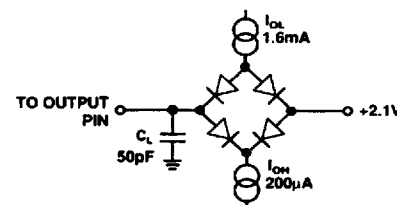

Figure 2. Load Circuit for Output Float Delay
- 4 $t_7$  is derived from the measured time taken by the data outputs to change 0.5 V when loaded with the circuit of Figure 2. The measured number is then extrapolated back to remove the effects of charging or discharging the 50 pF capacitor. This means that the time,  $t_7$ , quoted in the Timing Characteristics is the true bus relinquish time of the part and is independent of bus loading.